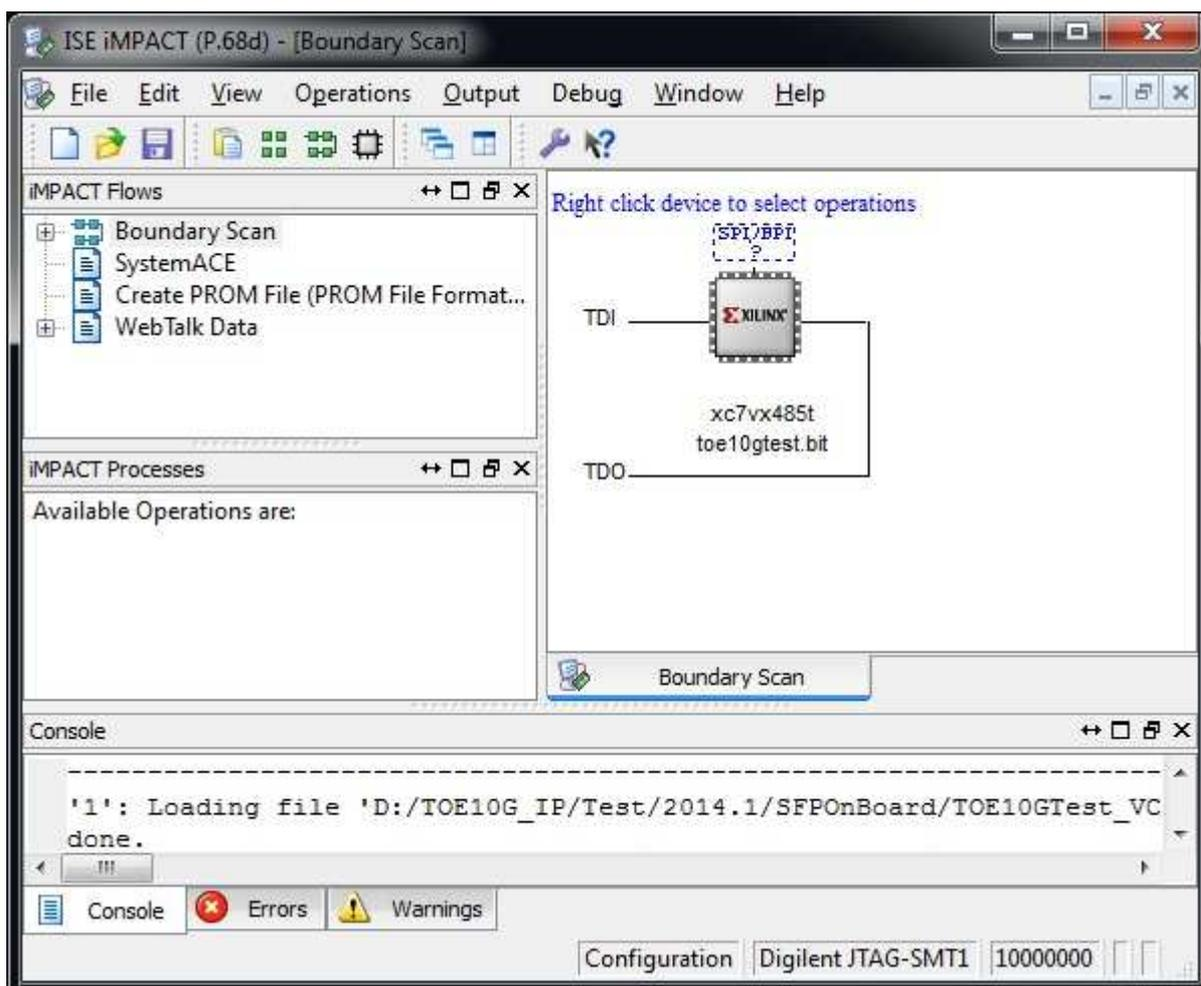

Figure 7 Programmer Environment
- Open iMPACT and download bit file to FPGA development board, as shown in Figure 7.